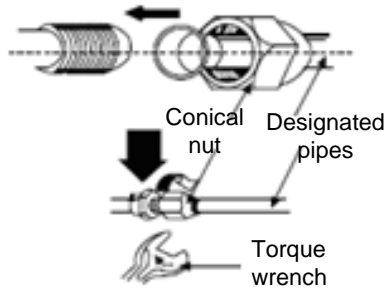

Figure 5-2 Fastening the connecting pipe
(3) Remove the refrigerant pipe joint from the water tank and the sealing nuts from the small and large valves of the outdoor unit, and add refrigerant oil on the joint and valve cones.
(4) Remove the sealing caps of the connecting pipe. Align the center of the bell mouth with the pipe joint and valve cone, and screw up the conical nut with your hand and then with a wrench, as shown in Figure 5-2.